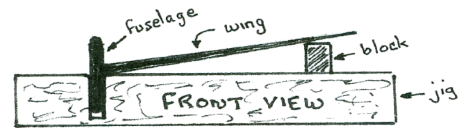

Figure 3
3. Using a block to raise the wing to the proper angle, push the wing against the fuselage and carefully use a very small amount of thin CA to tack the wing in the correct position. (Figure 3) Remove the fuselage and attach the wing firmly with CA.